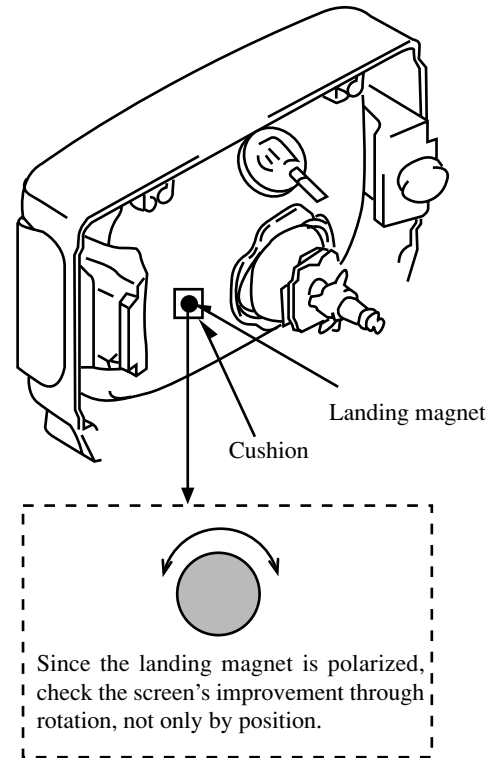

Fig 1-6
- (5) Gradually shift the deflecting yoke toward the front (toward the CRT funnel). Stop movement at the point when the screen has become completely green.
- (6) Also, verify the respective monochromatics of red and blue.
- (7) While looking at the screen, adjust the tilt of the deflecting yoke and tighten the DY lock screw.
- (8) Shift the magnet assembly to the front (toward the CRT funnel), stop movement before the adjustment position and then tighten the magnet lock screw.
- \* If the color irregularity in the screen's corner section are not improved, correct them with the landing magnet. After using the landing magnet, be sure to demagnetize the CRT with degausser and verify that there is no occurrence of color irregularity. (Refer to Fig. 1-6)